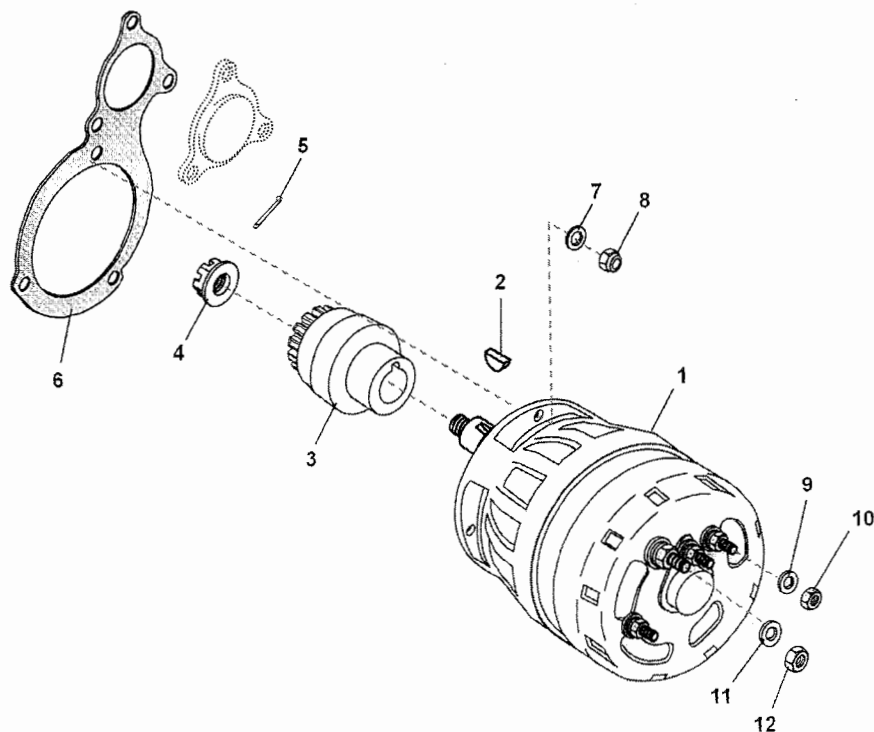
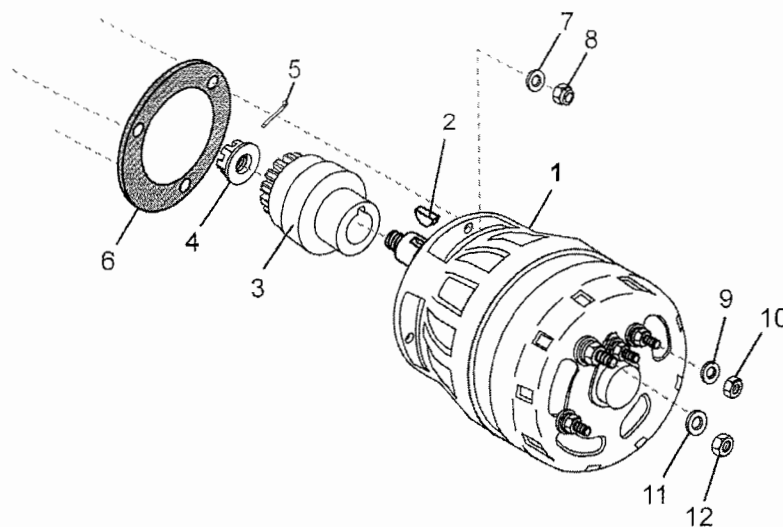

Figure 10-6. Alternator and Drive Hub
Figure 10-7. Alternator and Drive Hub
5. Remove three lock nuts (Figure 10-6) (8) and washers (7) from the three alternator mounting studs. Discard the lock nuts (8).
6. Remove the alternator (1) from the accessory case mounting studs.
4. Install the new gasket (Figure 10-6 or Figure 10-7) (6) on the accessory case studs.
5. Install the alternator (1) on accessory case studs.